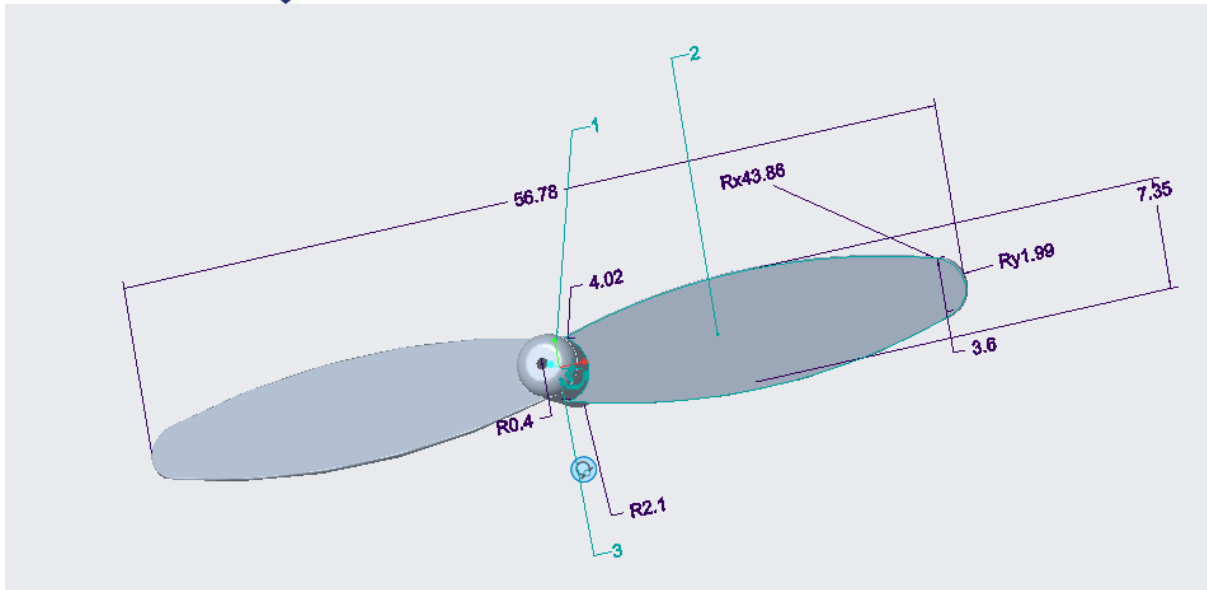

fig2.1
- Start with extruding a cylinder of height of **7mm** for portion 1 use the dimensions from fig2.1 and then round by **1mm**.
- Now round sharp edges to get desirable shape and then finally make a hole as per dimensions in fig 2.1 to finish the propeller.